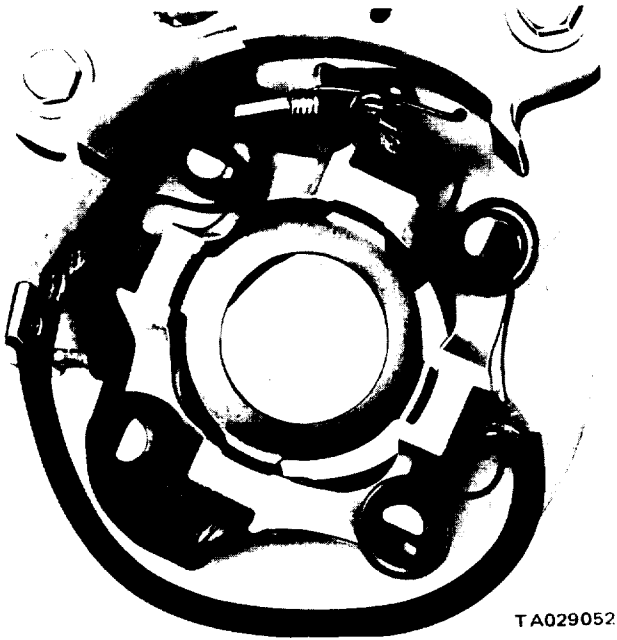

Figure 15-25. Positioning Armature Thrust Washer to Brushes.
(16) Position the brushes with the armature thrust washer as shown in figure 15-25. This will hold the brushes out and facilitate proper installation of the armature.